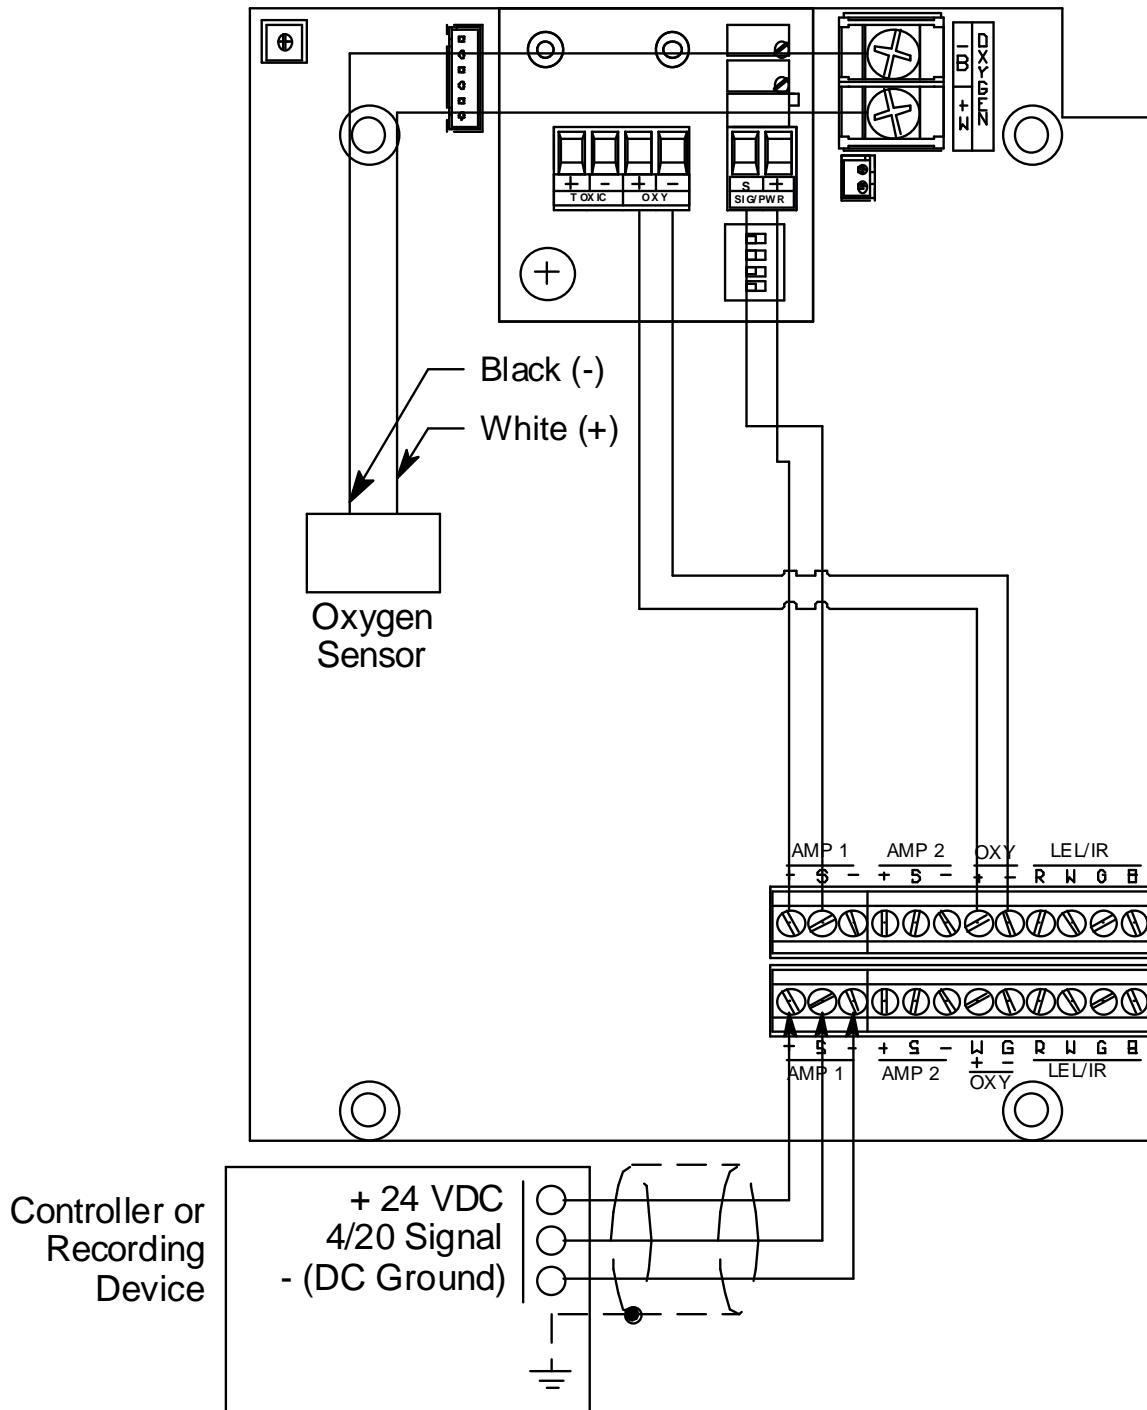

Figure 5: Wiring the Sample-Draw Detector to a Controller
5. Connect the cable to the sample-draw detector’s interconnect terminal strip as shown in Figure 5.
8. Connect the wires to the applicable detector/transmitter terminal strip at the controller as shown in Figure 5. Refer to the controller operator's manual and the controller detector head specification sheet for the 35-3001A-02 for detector/terminal strip connections specific to the controller.
8. Guide the wires and lugs of the replacement sensor to the oxygen sensor terminal strip and insert each lug into the appropriate terminal. See Figure 5 on page 10 for wiring connections. Tighten the screws on the terminal strip.